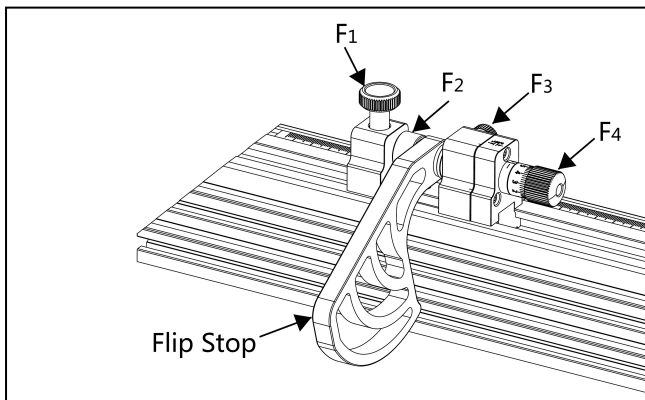

Fig.22
10.3 Positioning the flip stop (Fig. 22)